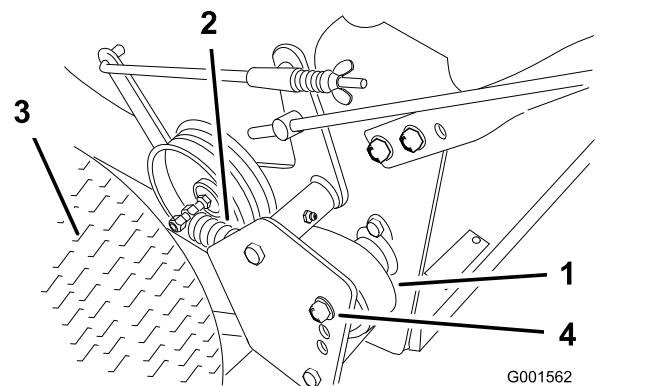

Figure 37
3. Remove the hairpin cotter securing the brake rod to the brake arm to relax the tension on the belt idler (Figure 37).
4. Remove the bottom bolt and loosen the top bolt of the shield to rotate it for belt clearance (Figure 37).
5. Lift the belt past the idler and off the drive pulley (Figure 37).
8. Secure the shield with the previously removed bolt and tighten the bolts (Figure 37).
9. Secure the brake rod to the brake arm with the hairpin cotter (Figure 37).